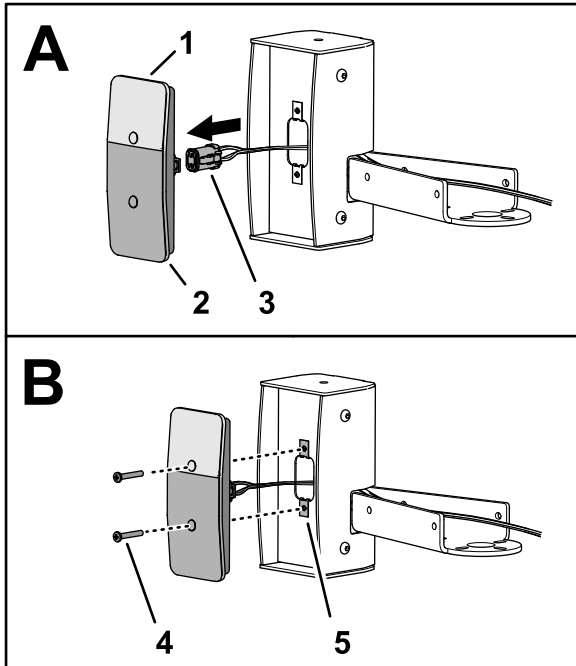

Figure 48
1. Align the taillight to the light housing with the yellow lens positioned as shown in Figure 48.
2. Plug the 4-socket connector of the harness into the 4-pin connector of the taillight (Figure 48).
3. Assemble the taillight into the light housing, and secure the light to the housing (Figure 48) with 2 Phillips-head screws (#10 x 1-1/4 inches).
1. At the left side of the bumper, remove the 2 capscrews (1/2 x 1-1/4 inches), 2 washers (1/2 inch), and 2 flange locknuts (1/2 inch) securing the bumper to the left frame rail (Figure 48).
2. Insert 2 carriage bolts (1/4 x 1-1/4 inches) into the slots in the swivel-adapter mount (Figure 48).